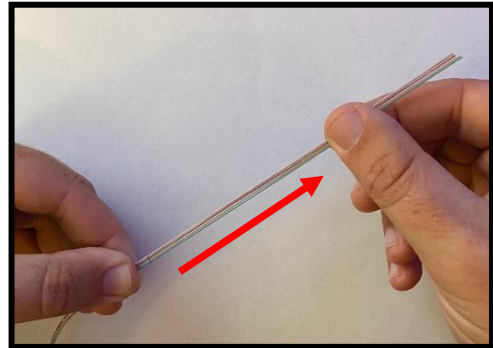

Figure 6
6.3 Grab one of the ribbons 6"-8" from the end and run your fingers along the length to the end to flatten out the ribbon. See Fig. 6